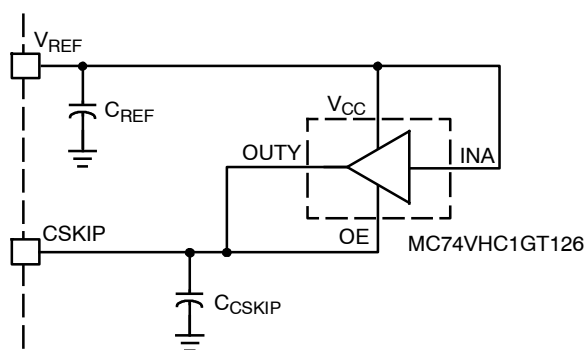

Figure 38. External Latch Implemented using ON Semiconductor's MiniGate™ Buffer
The latch in Figure 38 consists of a TTL level tri-state output buffer from ON Semiconductor's MiniGate™ family. The enable (OE) and output (OUYT) terminals are connected to CSKIP and the V_{CC} and INA pins are connected to V_{REF} . The output of the buffer is in a high impedance mode when OE is low. Once a continuous current limit condition is detected, the CSKIP timer is enabled and CSKIP begins charging. Once the voltage on CSKIP reaches the enable threshold of the buffer, the output of the buffer is pulled to V_{REF} , latching the CSKIP timer. The OE threshold of the buffer is typically 1.5 V.